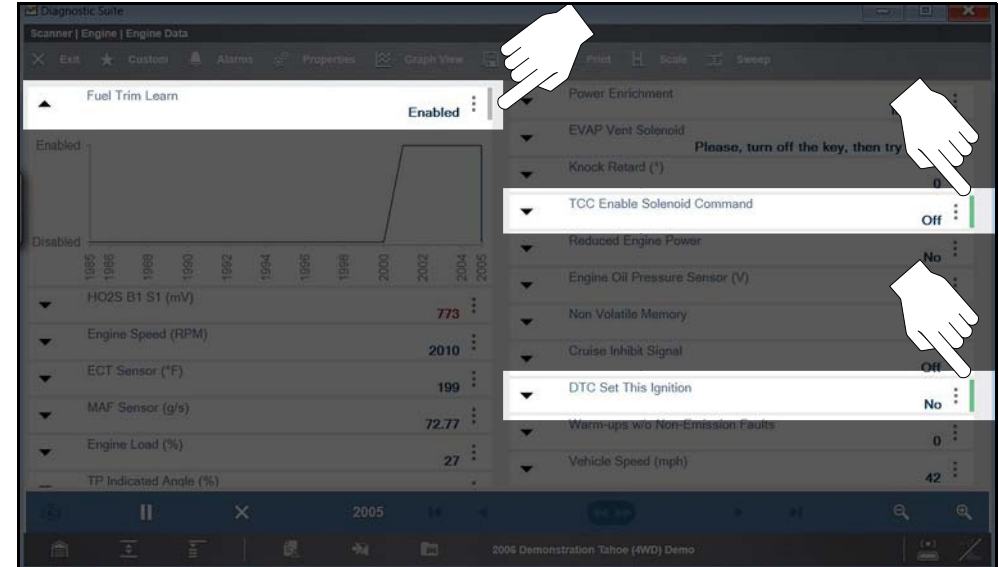

Figure 5-48 Typical - Alarm indicators
- Alarm indicators now appear next to the selected parameters in the Data List (Figure 5-48).